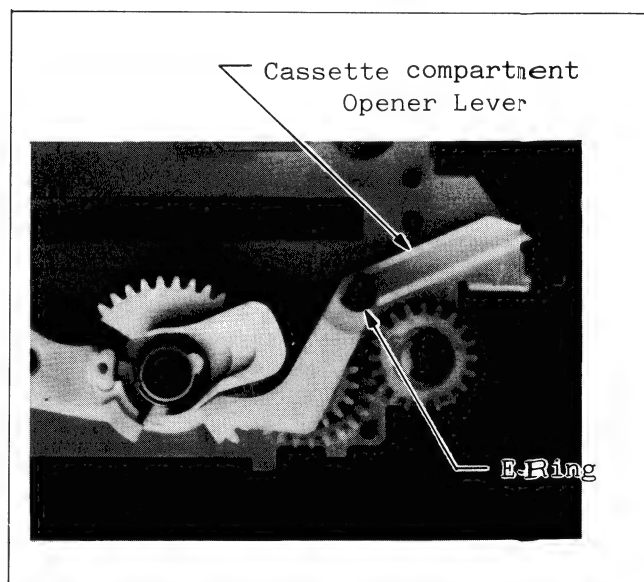

Fig. M71 Adj. of Cassette Up Gears - (12)
4. Install the cassette compartment opener Lever as shown in Fig. M71. Then install the E-Ring.